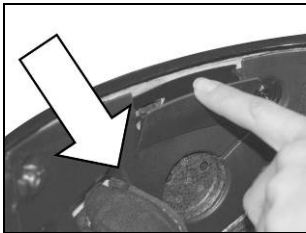

Fig. 1
- On the left side of the helmet, open the cheek pad lining door (Fig. 1).